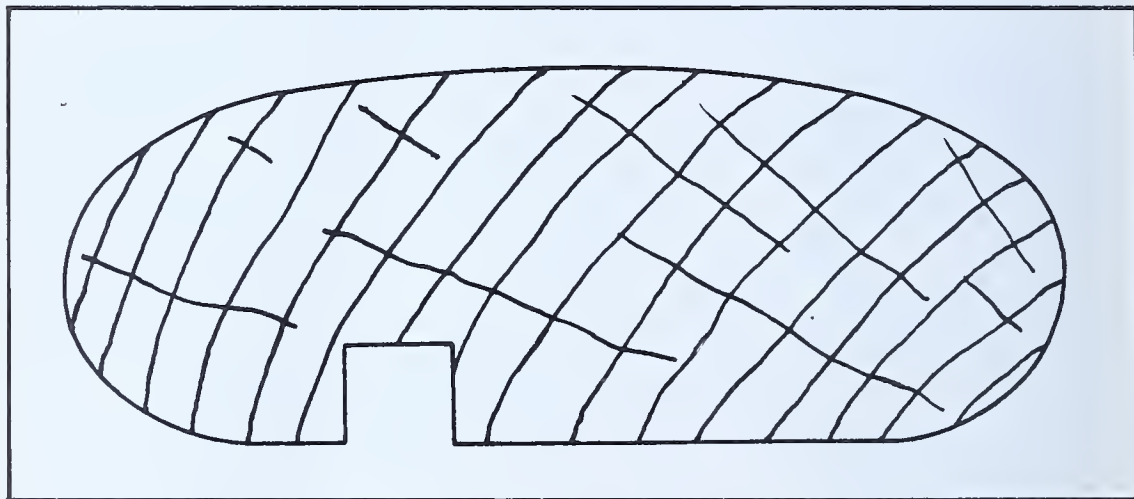

FIG. 129 — *End View of Hand Rail*
4. Machine a groove the full length of the rail as shown in Fig. 129.